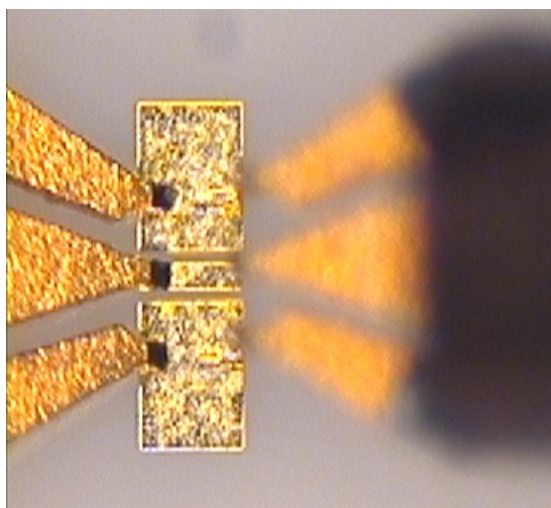

Figure 7: A THRU is measured, port 1 probe is well aligned and contacts while port 2 probe is above the wafer surface
- Adjust the zoom and focus so that you could clearly see the DUT on the wafer surface. When the probe is lowered down to touch the DUT, it will eventually enters the focus range of the camera, you will see it clearer and clearer. That is when you should slow down, carefully lower the probe bit by bit. On Figure 7, port 1 probe is making contact with the DUT while port 2 probe is not.